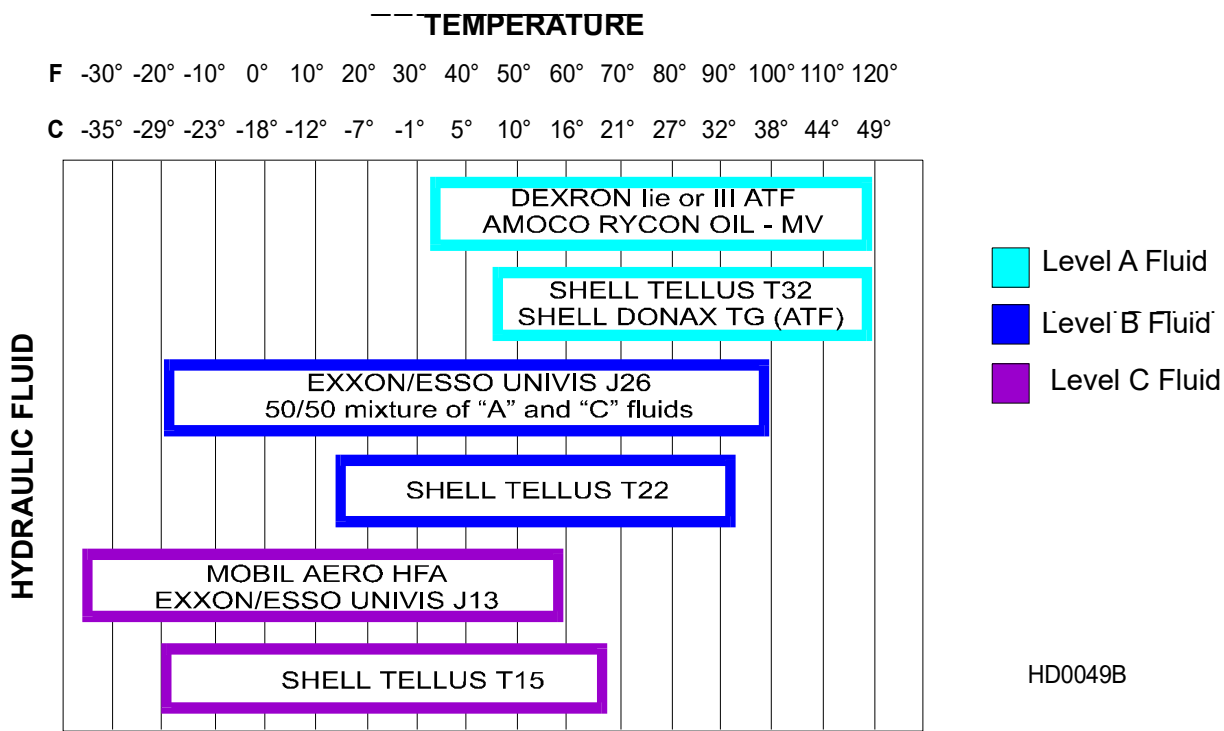

FIG. 3-9
**See Figure 3-9.** If you are operating in temperatures -20° to 100° F (-29° to 38° C), use an all-weather hydraulic fluid such as Exxon Univis J26. For alternate fluids and/or other temperature ranges, refer to the chart below. Operating above the recommended temperature range of a fluid could result in excessive pump wear. Operating below the recommended temperature range could result in reduced hydraulic cylinder speed.